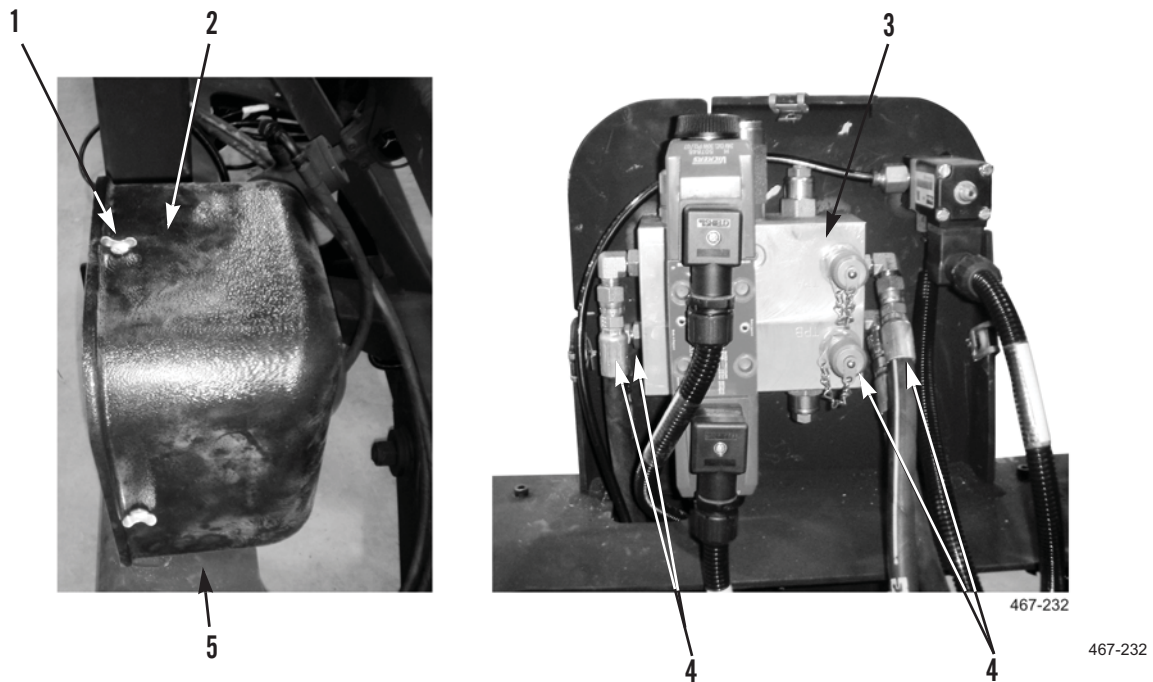

Figure 4. Solenoid Hose Installation.
1. Install four hoses (Figure 4, Item 4) on solenoid (Figure 4, Item 3).
2. Install solenoid cover (Figure 4, Item 2) on stowage assembly (Figure 4, Item 5) and tighten four locking screws (Figure 4, Item 1).